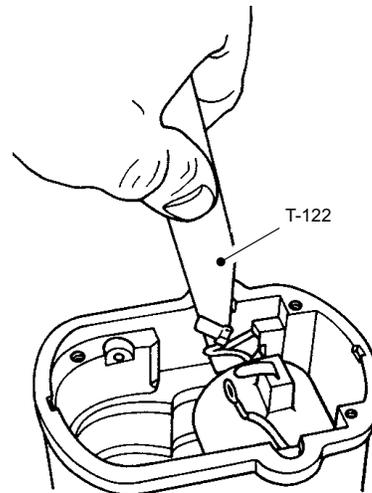

Figure 6.10
- C. Use the coil wedge extractor T-122 to remove coil wedges and lift out coil. (See Figure 6.10.)